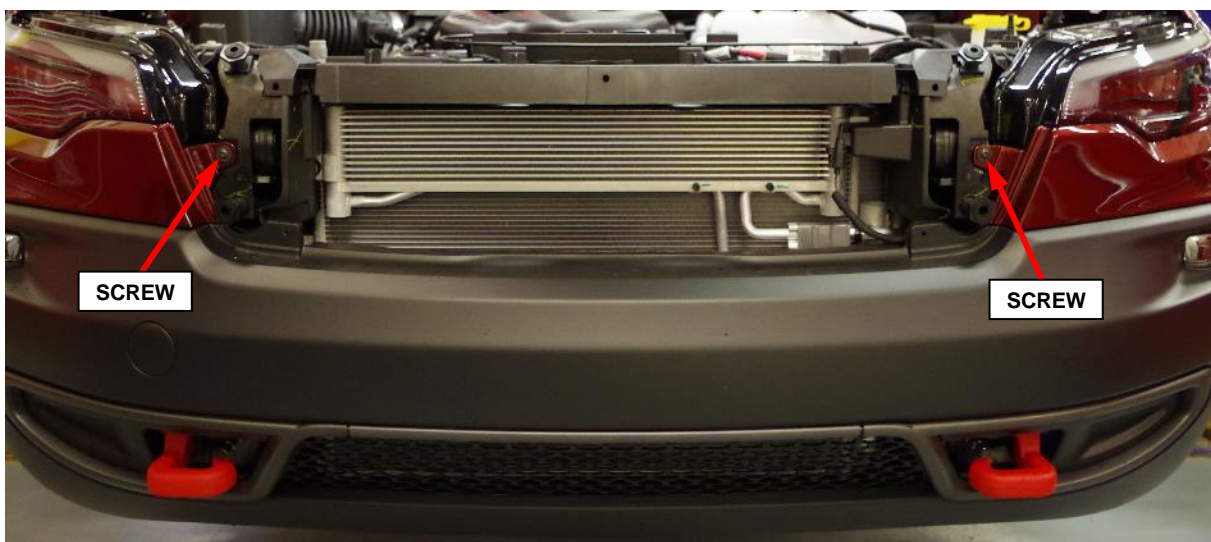

Figure 17 – Front Fascia to Core Support Attachment Screws
21. **If applicable** based on trim level, remove the two screws securing the front fascia to the radiator core support (Figure 17).